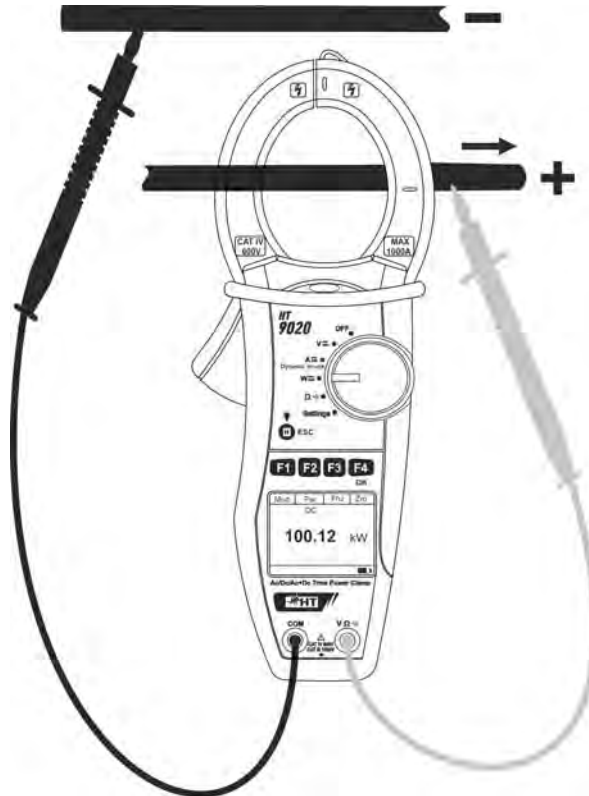

Fig. 11: DC power/energy measurement
5. Connect red cable to input lead **VΩ** and black cable to input lead **COM**. Position red lead to “+” and black lead to “-” then connect “+” cable to the clamp jaws, respecting the direction of current indicated by the arrow (see Fig. 11). Connect the cable to the middle of the clamp jaws, in order to get accurate measurements. Use the marks as a reference (see Fig. 2)
6. The value of DC power is displayed expressed in kW. Press **F2 (Par)** to open the drop-down menu shown on the screen aside and select the “**Volt/Curr**” option for the DC voltage and current measurement. Confirm with **F4 (OK)**. The following screen is displayed: